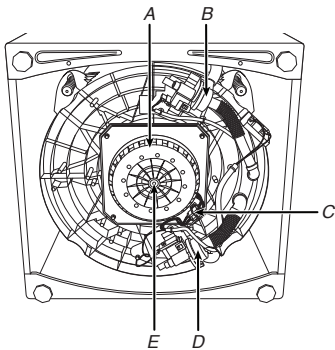
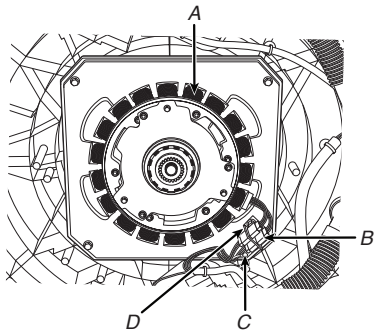

Figure 1 - Drive Area (Bottom View), Sound Pad (If Equipped) Removed
Figure 2 - Drive Area (Bottom View - Motor Cover Removed) and Checking Slider Movement/Alignment
- 8. Tilt washer back and remove sound pad (if equipped) to access the drive system (see Figure 1 below).
- 11. Remove the motor bolt, then the motor cover (see Figure 1 on this page). Remove the motor stator and the shifter coil and confirm that the slider on the motor shaft moves freely (see Figure 2 on this page).
7. Tilt washer back to access the bottom of the washer and the drive motor area (see Figure 1 on earlier page).
10. Tilt washer back (if it is not already) to disconnect the motor connector and use an ohmmeter to verify the motor resistance values at the drive motor connector [see Figure 1-Drive Area (Bottom View)].
11. Remove the motor bolt, then the motor cover [see Figure 1-Drive Area (Bottom View) and Figure 2-Drive Area (Bottom View - Motor Cover Removed) and Checking Slider Movement/Alignment].